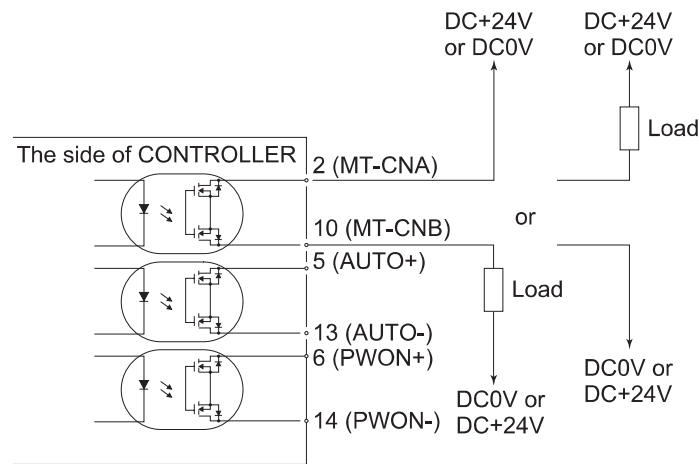

Fig. 39
- Applied Voltage (V) $\leq$ DC+30V
Use an external power source for output circuits. It is recommended to use a separate power supply Input / Output Connector B ④ . Please refer to Fig. 39 for connections.